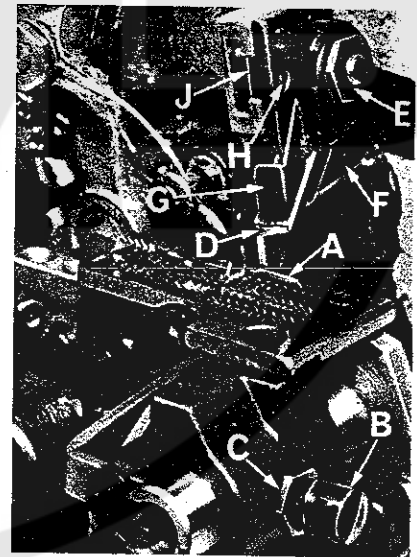

Fig. 13
Replace lower knife holder assembly. Lower knife (A, Fig. 13) should be set with cutting edge flush with throat plate surface. Adjustments are made with hexagonal head screw which holds lower knife. Lower knife is spring pressed against upper knife, so no lateral adjustment is necessary when width of trim is changed.
Replace upper knife assembly. Clamp upper knife (D, Fig. 13) in position, setting nut (E) to hold clamp (F) in its most clockwise position against upper knife. Upper knife chain guard (G) should be positioned so that the guarding section is approximately  $1/64$  inch behind the cutting edge and in contact with the top surface of the upper knife.